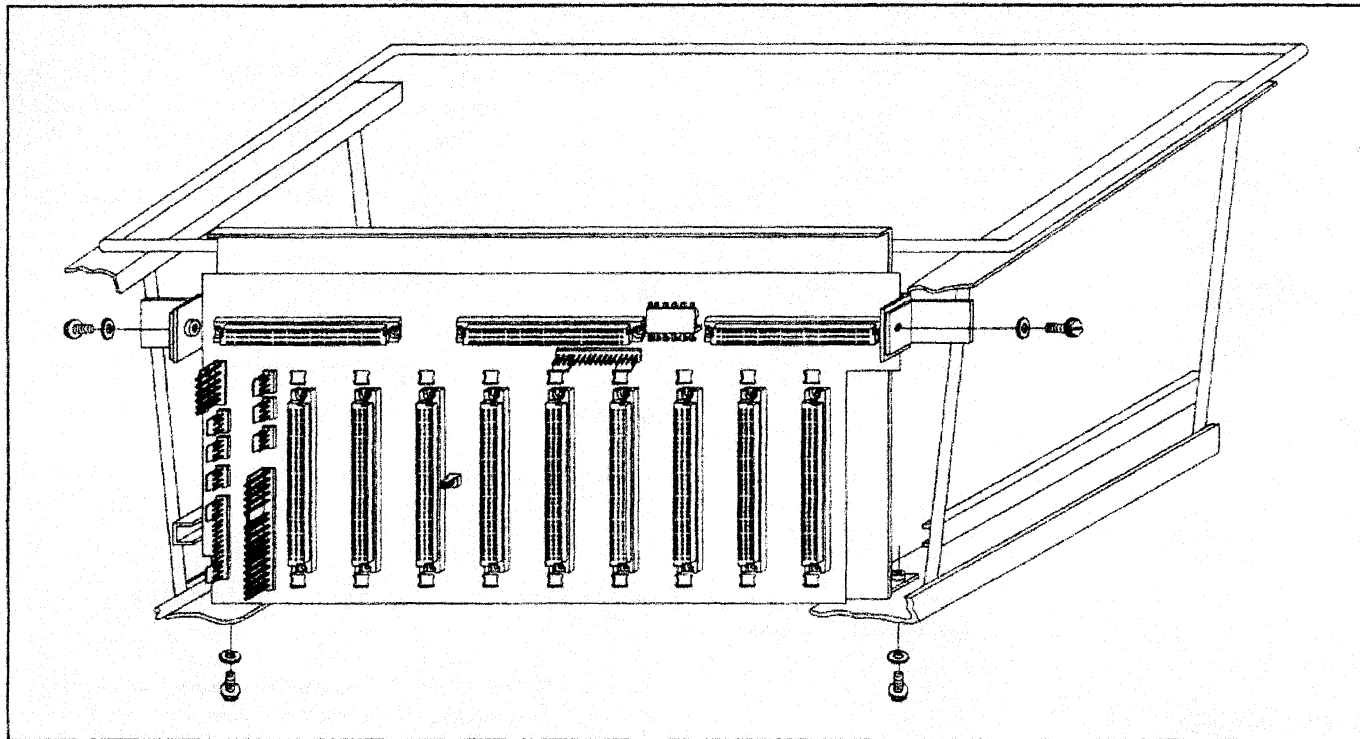

FIGURE 23-1. Mother Board Assembly Removal
f) Remove the hex head screws securing the projector bottom plate to the projector frame. See Figure 23-1.